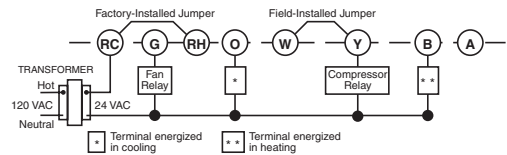

Figure 4. Typical wiring for single transformer, single stage heat pump system
- Electric heat or single stage heat pump systems:** These thermostats are configured from the factory to operate a heat/cool, fossil fuel (gas, oil, etc.) forced air system. This is correct for any system that **DOES NOT** require the thermostat to energize the fan on a call for heat. If your system is an electric heat or heat-pump system that **REQUIRES** the thermostat to turn on the fan on a call for heat, remove the yellow factory-installed jumper wire from the **Y** terminal and connect it to the **A** terminal. This will allow the thermostat to energize the fan immediately on a call for heat. If you are unsure if the heating system requires the thermostat to control the fan, contact a qualified heating and air conditioning service person. For single stage heat pump applications (no auxiliary heat), install a short jumper wire (not included) across terminals **W** and **Y**. If the system has a reversing valve connection energized in Cooling, attach it to **O**. If the system has a reversing valve connection energized in Heating, attach it to **B** (see Fig. 4). This thermostat will not provide multi-stage heating or cooling.